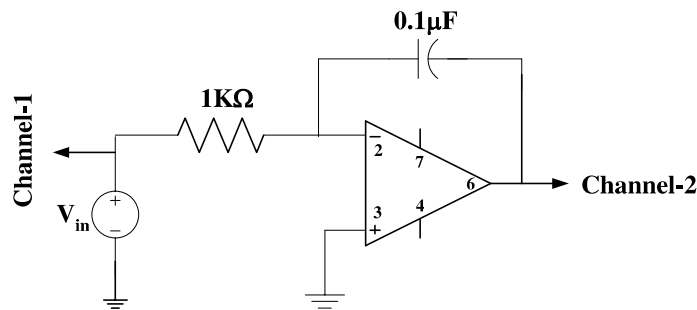

Figure 1. An Op-Amp integrator circuit.
1. INTEGRATOR: Consider the integrator shown in Figure 1 with $v_{in} = V_p \sin(\omega t)$. If the circuit is initially relaxed, find the expression of output and determine the frequency, f , at which the output amplitude is equal to $2V_p$. Also, determine the phase relation between input and output.
1. Measure the resistance and write it down. Connect the circuit as shown in Figure 1. Use a +5V DC power supply to terminal 7 and -5V DC power supply to terminal 4 of the Op-Amp. Use fixed 5V and -5V DC supply of digital trainer board or 0 to 15V and 0 to -15V DC variable power supply from the digital trainer board.
3. Simulate the integrator of Figure 1 for 4 cycles using PSpice with the measured value of R and the square wave input that you have used in the lab and have the simulation result printed. Compare the simulation result with your measurement.